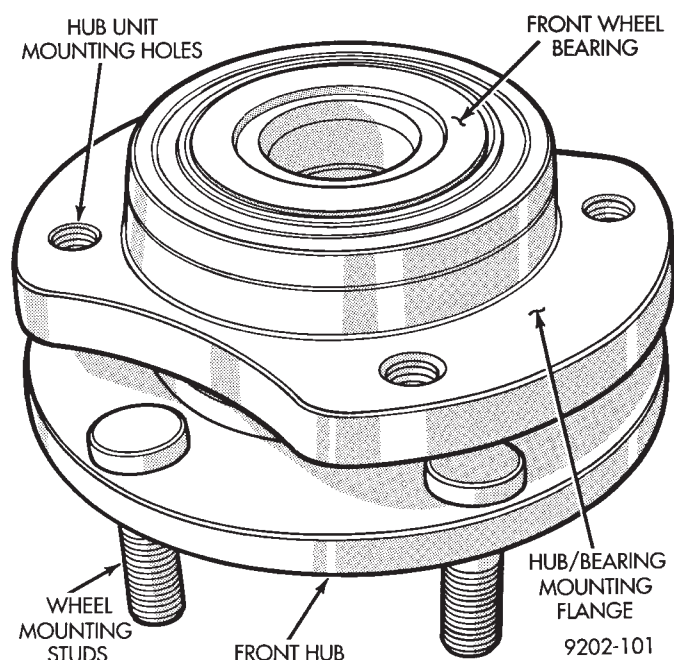
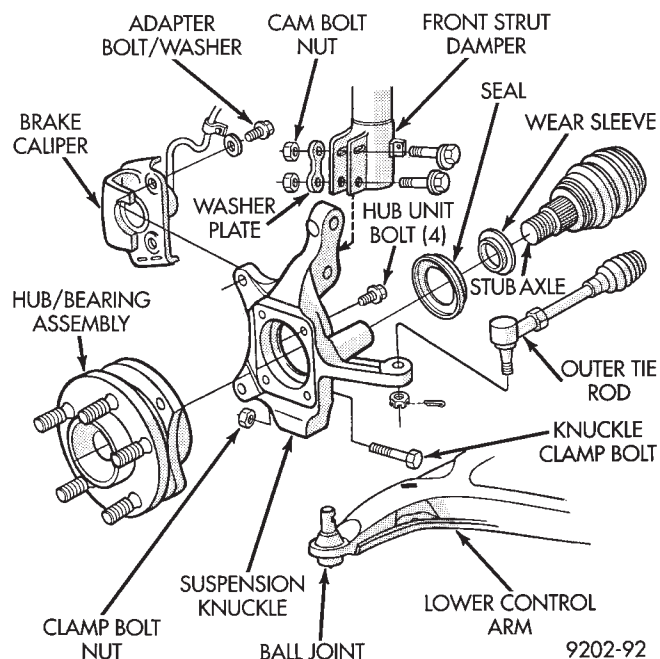

Fig. 1 Unit III Front Hub And Bearing Assembly
Fig. 2 Front Hub And Bearing Assembly Mounting
(9) Install the front brake caliper and adapter back over the braking disc and align with the adapter mounting holes on steering knuckle (Fig. 1). Install the caliper adapter to steering knuckle attaching bolts and torque to 217 N•m (160 ft. lbs.).
The Unit III Front Hub and Bearing (Fig. 1) is used on all 1992 M.Y. Front Wheel Drive Applications.
This unit is serviced only as a complete assembly (Fig. 1). It is mounted to the steering knuckle by four mounting bolts that are removed from the rear of the steering knuckle (Fig. 2).